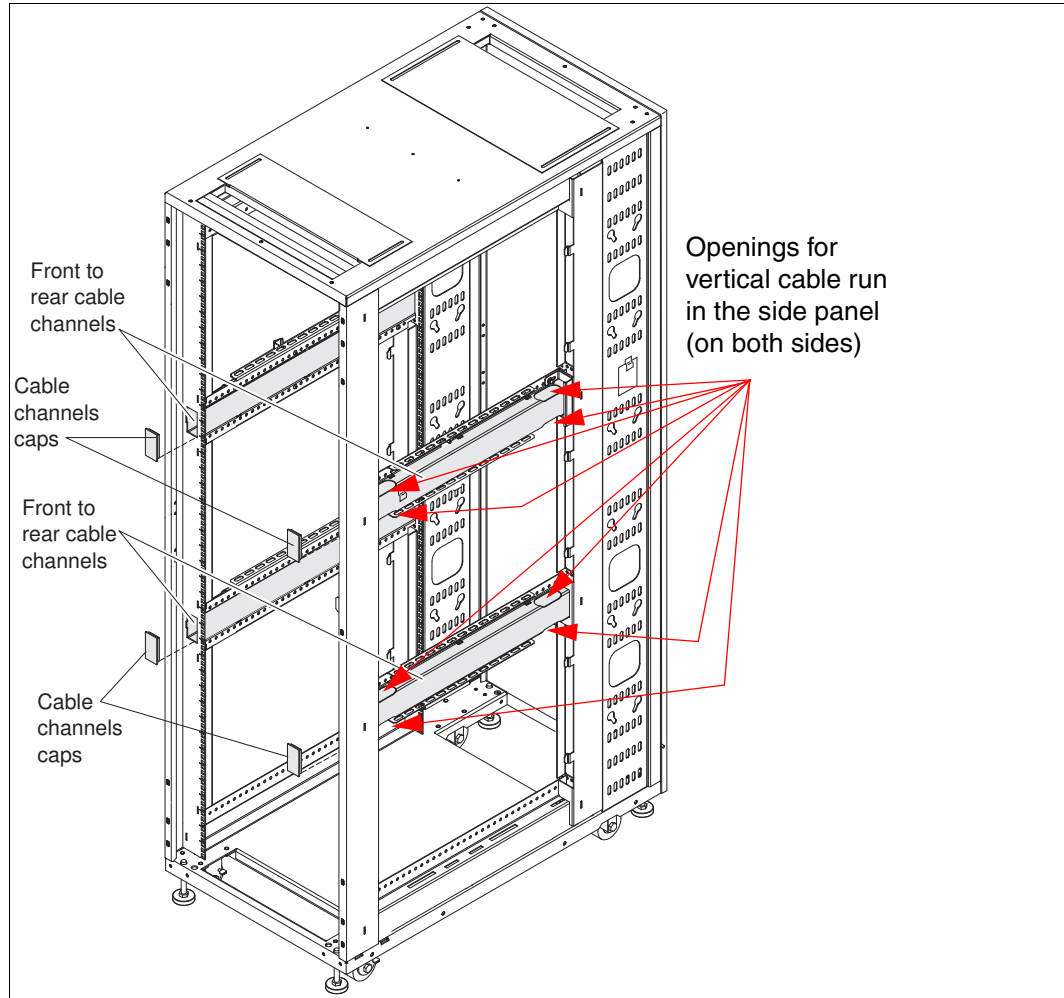

Figure 5-12 Front to rear cable channels
- ▶ Two front-to-rear cable channels on each side of the rack, as shown in Figure 5-12.
- ▶ Openings in the cable channels on each side of the rack to enable vertical cabling within the side panels, as indicated by arrows in Figure 5-12.
As seen in Figure 5-12 on page 80, the 42U 100 mm Enterprise V2 Dynamic Rack contains two front to rear cable channels on each side of the rack so routing cables to the back of the rack does not waste any U space in the rack. Having these multiple openings on each side of the rack at different heights reduces the overall size of the cable bundles that are supporting the compute trays.